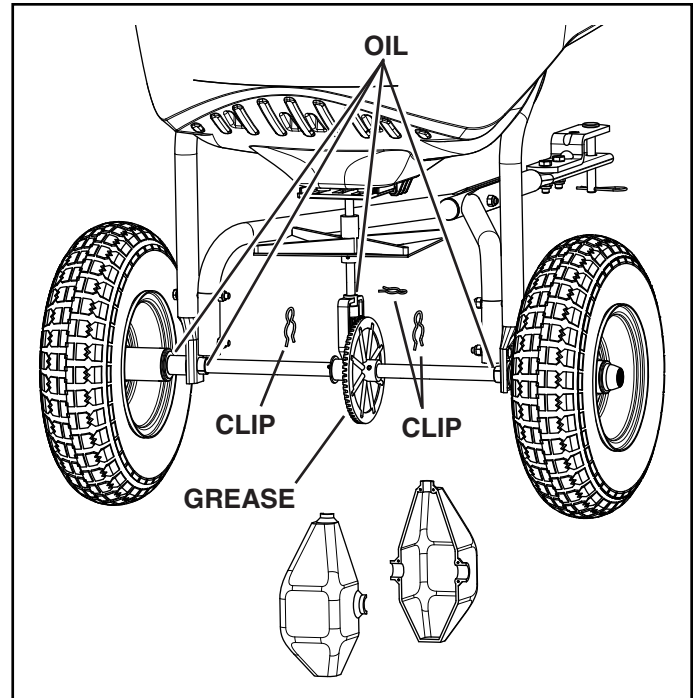

FIGURE 18
LUBRICATE (See figure 18)
1. If the axle and gear assembly is disassembled, mark down the positions of the parts as they are removed. The drive wheel and large gear positions, in relation to the small gear, determine which direction the impeller will spin. Be sure to reassemble them in their original positions. (Refer to parts exploded view on page 18). Make sure the washers (items 18 and 31 on page 18 and 19) are in place when assembling the axle components. Add grease to gears. See figure 18.